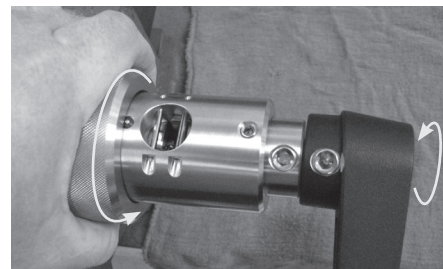

Fig. 25 Loosening the drive nut
20. While continuing to turn the handle **clockwise**, slowly loosen the drive nut by turning it **counter-clockwise**. Stop turning the handle once the coning tool is clear of the cone. (Fig. 25)